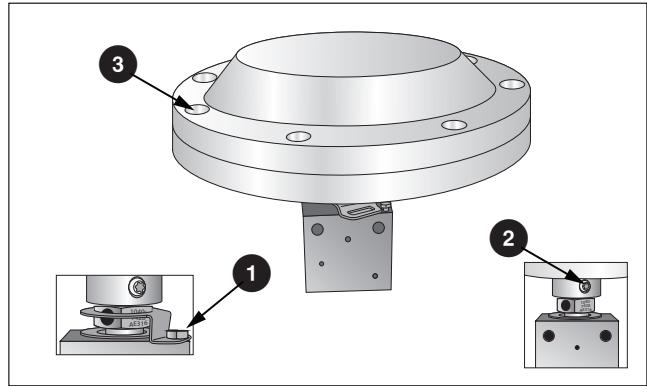

Figure 3. Isolation Valve Retaining and Set Screw
1. Remove the retaining screw (Figure 3, ①).
2. Loosen the set screw (Figure 3, ②) and remove all nuts and bolts (Figure 3, ③).